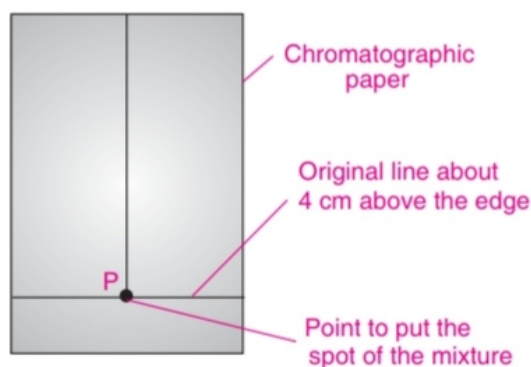

Fig. 6.4. Spotting of the mixture.
1. Take a Whatman filter paper strip (20×2 cm) and draw a line with pencil about 3 cm from one end. Draw another line lengthwise from the centre of the paper as shown in Fig. 6.4.